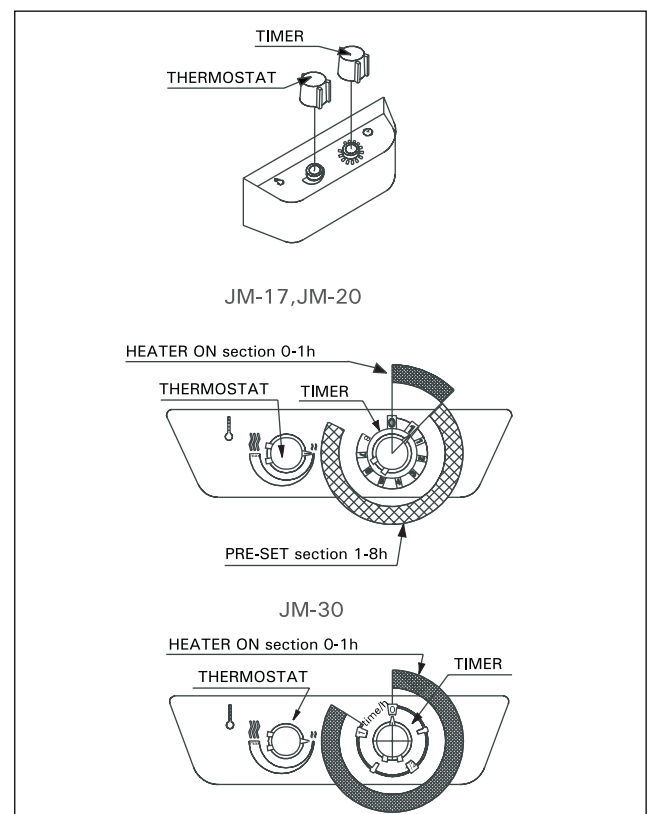

Figure 2. Control panel
The heaters JM-17 and JM-20 are switched on by using the timer switch. The indicator lights will come on. The timer has two scales: the first one (with larger figures) is the "instantly on" section; that is, the heater is on for a selected period of time (0–1 hours). The other section is the so called "pre-set section" (1–8 hours), which is used to start the heater after a certain time. The heater starts when the timer has turned the switch back to the "instantly on" section, that is, at number one(1). After this, the heater will be on for about 1 hour, unless the switch is turned to zero before that. At zero (0), the supply to the elements is cut off and the heater is switched off. See fig 2.
The JM-30 heater is equipped with 1 hour timer without pre-set time function. See fig. 2.
The temperature is adjusted by the thermostat to a position between minimum and maximum. See figure 2. The correct position of the thermostat switch is found by experimenting.